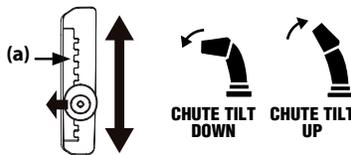

Figure 3-13
To change the upper chute angle to control the distance that snow is thrown, pivot the lever forward or backward. See Figure 3-13.
- **To Reduce the Distance Snow is Thrown:** Move the lever forward to pivot the upper chute down. See Figure 3-13.
- **To Increase the Distance Snow is Thrown:** Move the lever rearward to pivot the upper chute upward. See Figure 3-13.
- **To Reduce the Distance Snow is Thrown:** Disengage lever from the current chute-pitch setting. Move the lever forward to pivot the upper chute down to the desired pitch setting (a). See Figure 3-13.
- **To Increase the Distance Snow is Thrown:** Disengage lever from the current chute-pitch setting. Move the lever rearward to pivot the upper chute upward to the desired pitch setting (a). See Figure 3-13.